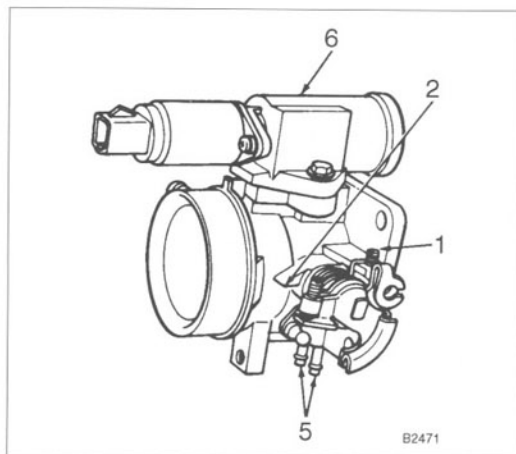

Fig. 5-2. Typical throttle body showing idle speed adjustment screw (1).
4. Next, adjust idle speed by turning the throttle stop screw shown in Fig. 5-2 above until tone/light/STO LO is correct.
2. With engine OFF, install feeler gauge 0.025" between the throttle plate idle stop-screw and the throttle lever. See Fig. 5-2 above.